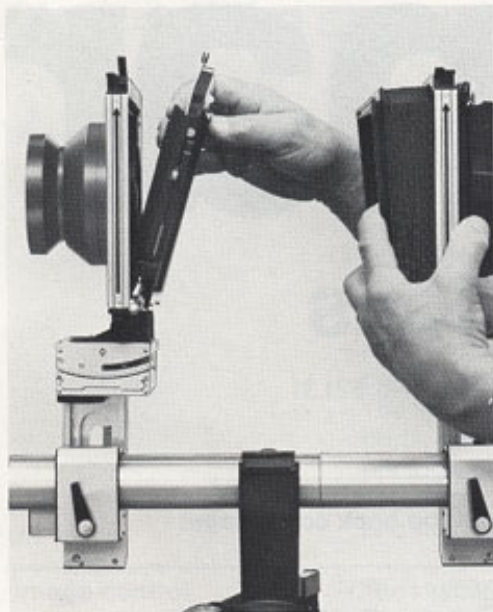

Fig. 1
- Mount the shutter in the camera as shown in figure 1. The flash outlet should be at the left, as seen from behind the ground glass screen.
- When using lenses with spring-loaded diaphragm (DB) with the SINAR/COPAL shutter preselect the aperture with the knob 6.
- When mounting lenses with spring-loaded diaphragm (DB), the red dot at the back of the lens panel must line up with the red dot on the shutter panel.